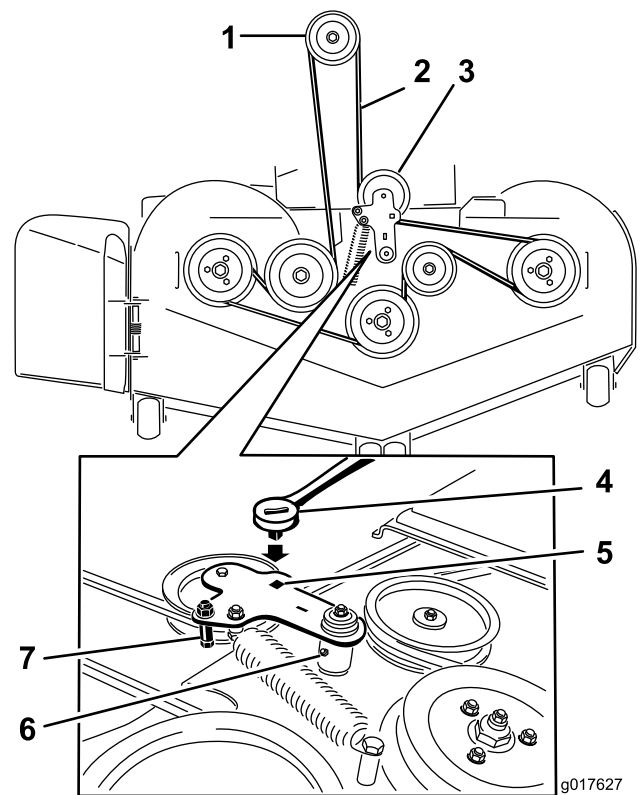

Figure 56
10. Install the belt guide on the idler arm (Figure 56).
11. Using the ratchet in the square hole, install the idler spring (Figure 56).
5. Use a ratchet in the square hole in the idler arm to remove tension on the idler spring (Figure 56).
7. Remove the belt guide on the spring-loaded idler arm (Figure 56).
9. Install the new belt around the mower pulleys and the clutch pulley under the engine (Figure 56).